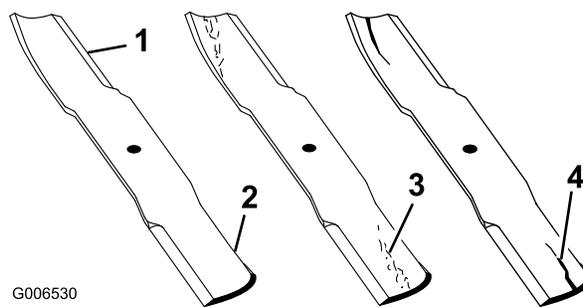

Figure 55
1. Inspect the cutting edges (Figure 55).
2. Inspect the blades, especially the curved area (Figure 55).
Note: If you notice any damage, wear, or a slot forming in this area (Figure 55), immediately install a new blade.